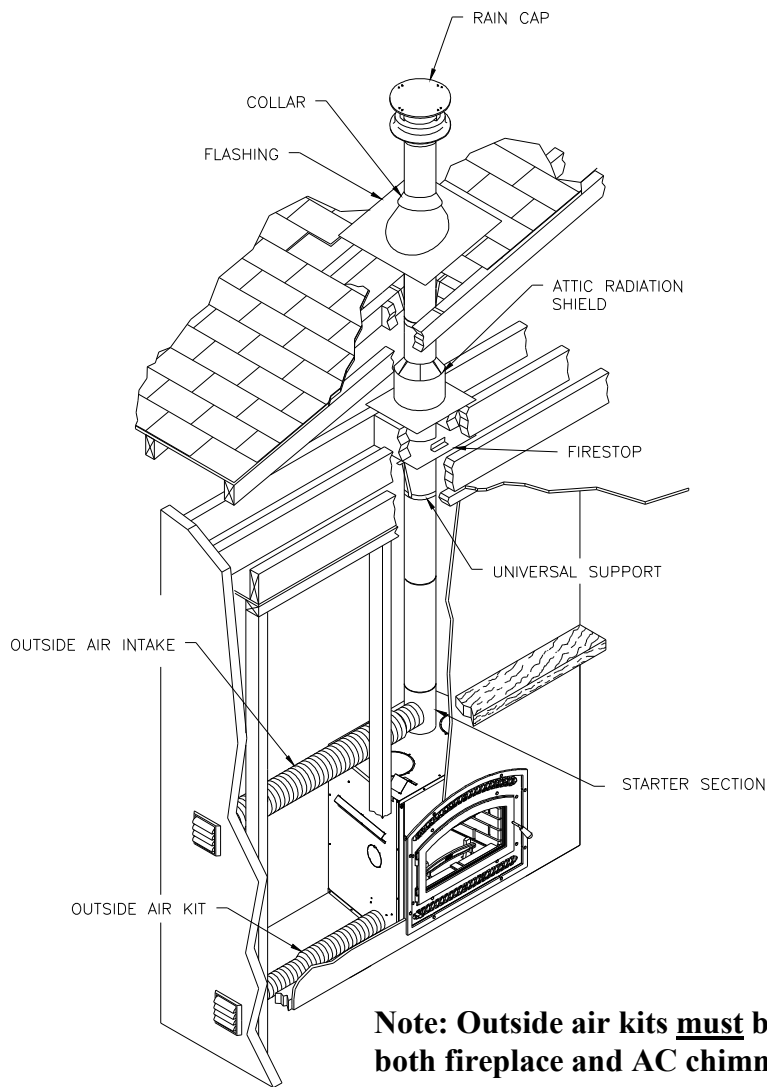

Figure 30
3. For ASHT+ / HT6103+ and S-2100+ / HT6000+ chimneys, place the first chimney length on the fireplace. To lock it in place, turn ¼ of a turn clockwise. With the AC chimney, you must use a starter section before installing the first chimney length (figure 30). Continue installing chimney lengths making sure to lock each length in place.